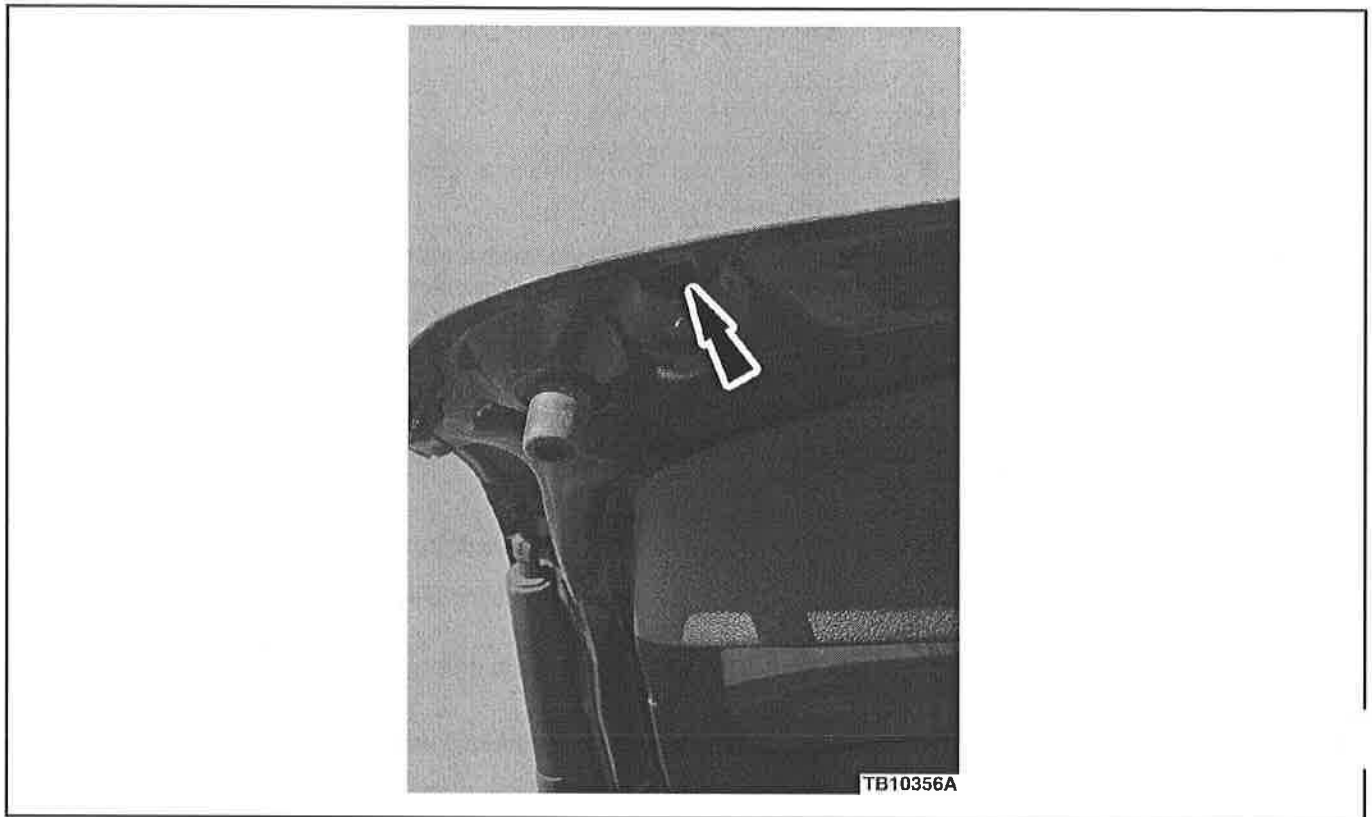

Figure 1 - Article 16-0166
5. Open the liftgate and inspect for presence of drain valves in the two (2) drain holes on the left and right side of the liftgate. Are the drain valves present? (Figure 1)
6. Install a new drain valve in each of the two (2) drain holes on the left and right side of the liftgate. (Figure 1)